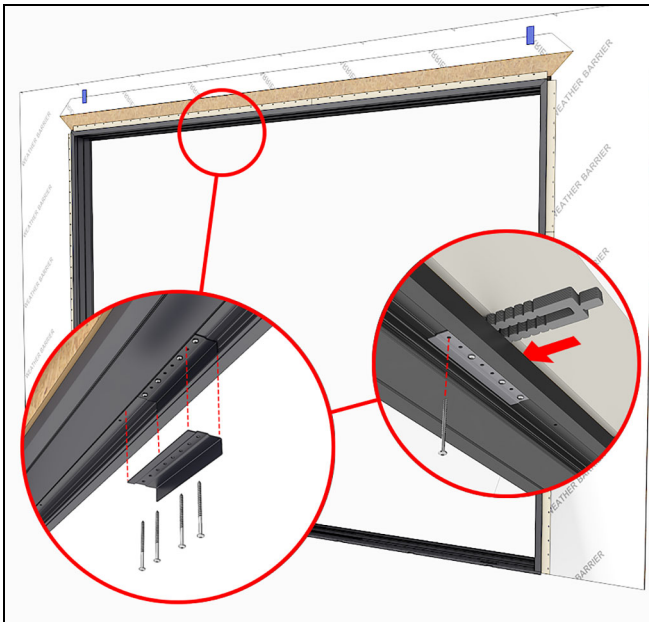

Figure 130
3. Fasten through the bracket into the head jamb framing with #10 x 3" installation screws at each pre-drilled location. Shim above the bracket as needed. See Figure 130.